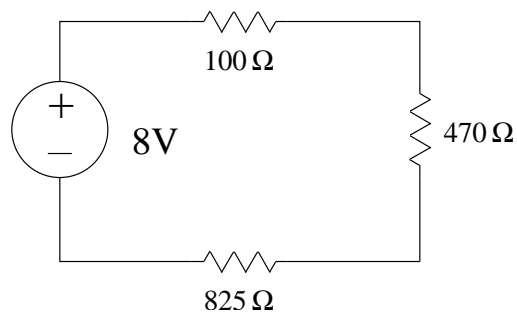

Figure 9: Series resistive circuit
2. Select a resistor with a resistance of at least $500\ \Omega$ and create the following simple series resistive circuit (Fig. 9) using the power supply as the voltage source. Do not turn on the supply voltage until your circuit has been approved by the instructor.
Consider the circuits shown in Figures 9 and 10.
- Wire each of the circuit schematics shown in Figures 9 and 10. Measure each voltage and current in the list of different voltages and currents determined in the prelab. Watch your sign conventions closely! Make sure the "sufficient current" power supply light is green.